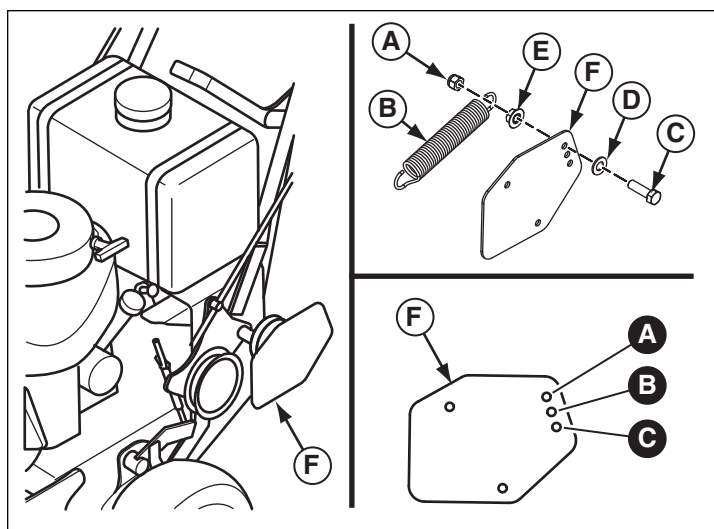

Figure 27. Steering Lever Comfort Adjustment
4. Remove the nylock nut (**A, Figure 27**) and spring (**B**) from the spring anchor bolt (**C**).